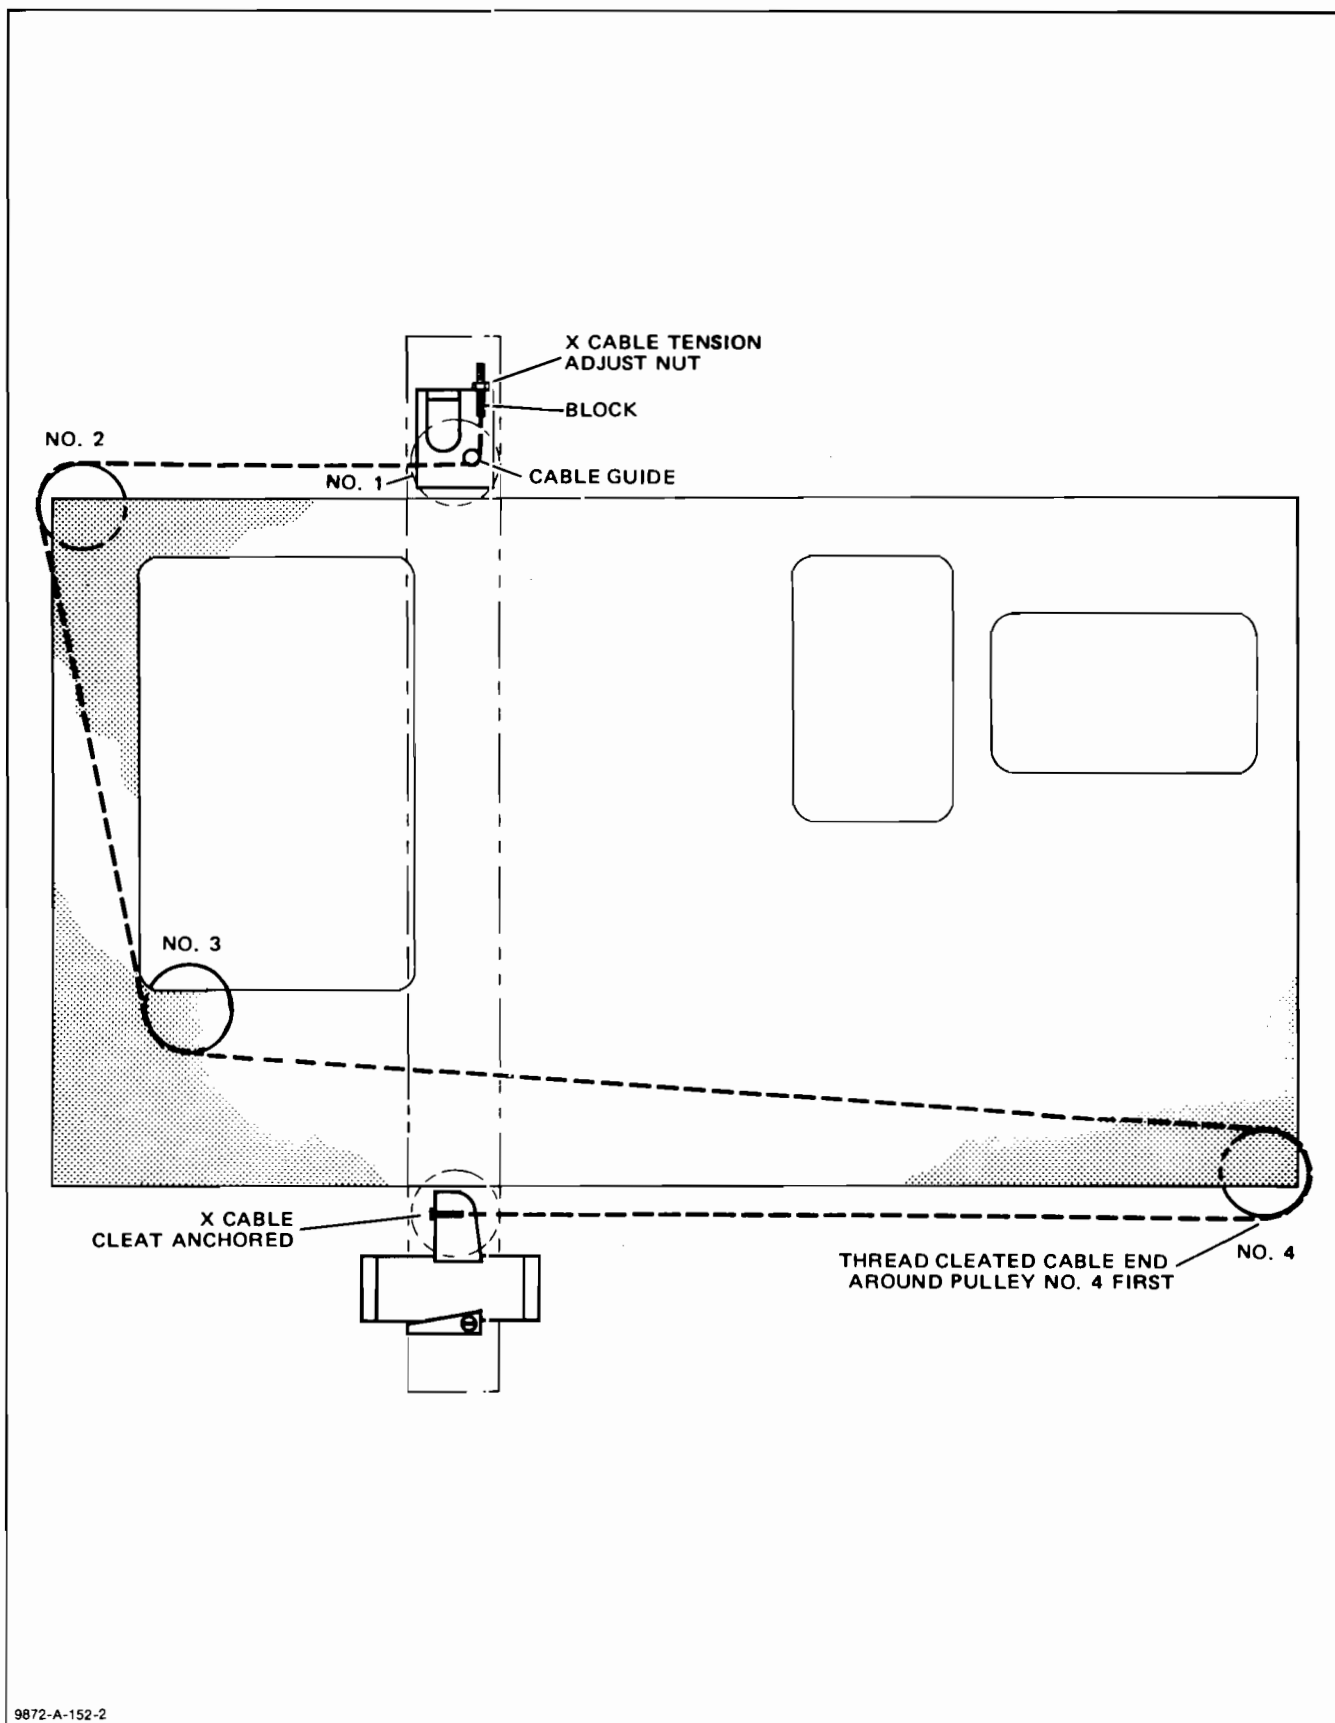

Figure 6-32. X Cable Stringing Diagram Viewed from Underside of Upper Deck
6-93. X-CABLE INSTALLATION. See Figure 6-32. To install the X-cable, proceed as follows:
- d. Replace pulley #4, making sure that the washer has been replaced under the pulley. The pulley will not rotate if the washer is omitted. See Figure 6-32.